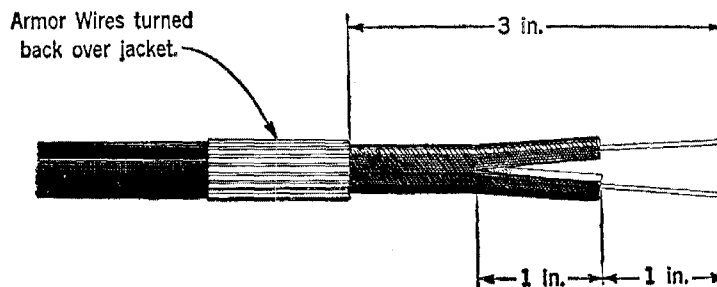

Fig. 1
2.01 The conductors being spliced should be prepared as shown in the following sections except that one inch of insulation shall be removed from each conductor (see Fig. 1) rather than the one-half inch shown in these sections.